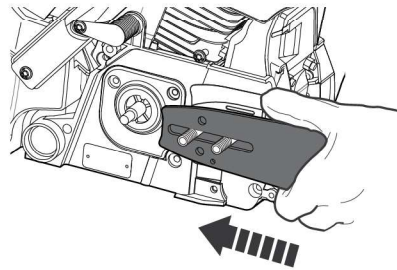

Fig. 4
- > Place the slot in the guide bar (4) over the bolts (19). Push the guide bar (4) to the left towards the drive sprocket (22) (behind the clutch (21) (Fig. 4).